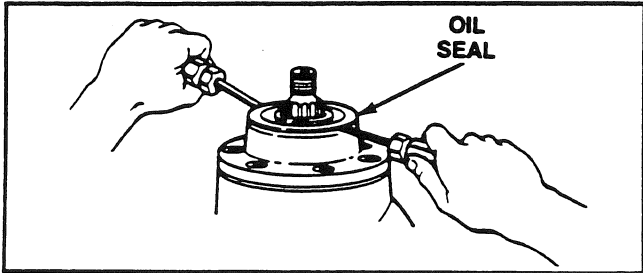

Fig. 22
6. Remove and discard the pinion oil seal (see Fig. 22). Be careful you do not damage the mounting surfaces or wall of the bore. Damage to the bearing cage bore can cause oil leaks.